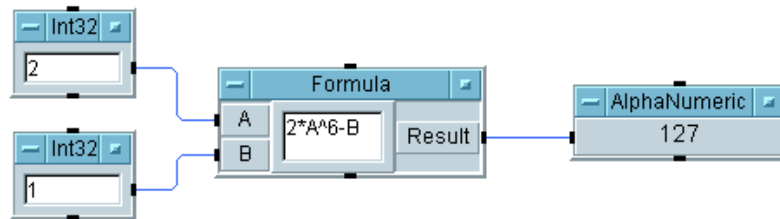

Figure 4-6. Evaluating an Expression
5. Select **Display** $\Rightarrow$ **AlphaNumeric** and connect it to the output of **Formula**, and run the program. It should display the result 127, as shown in Figure 4-6.